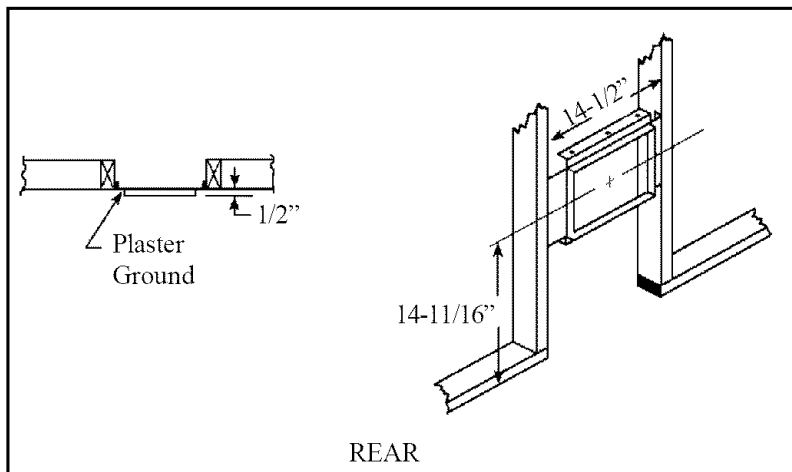
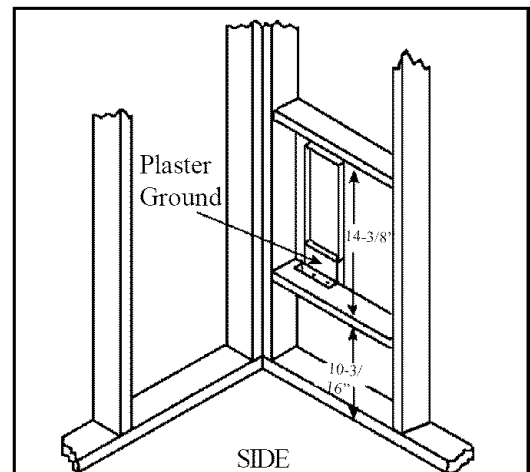
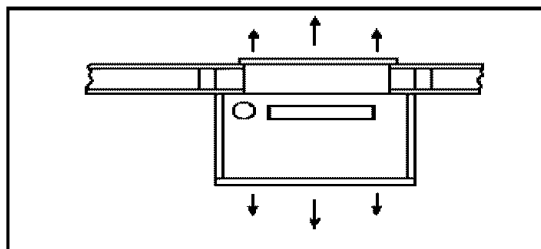

FIGURE 12
FIGURE 13
FIGURE 14
Install plastergrounds as shown in Figure 12 and Figure 13.
(See Figure 14)
2. Cut openings in drywall as shown in Figure 12.
3. Position plasterground as shown in Figure 12 (Optional).
7. Place inner boot into position, mark and cut boot flush with wall. Place damper into cutout end of inner boot, mark (4) holes from damper onto inner boot, top and bottom, and drill (4) 1/8" hole. Place outer boot into position, mark and cut boot flush with wall.
10. Final installation will appear as Figure 14.
2. Cut openings in wall as shown in Figure 13.